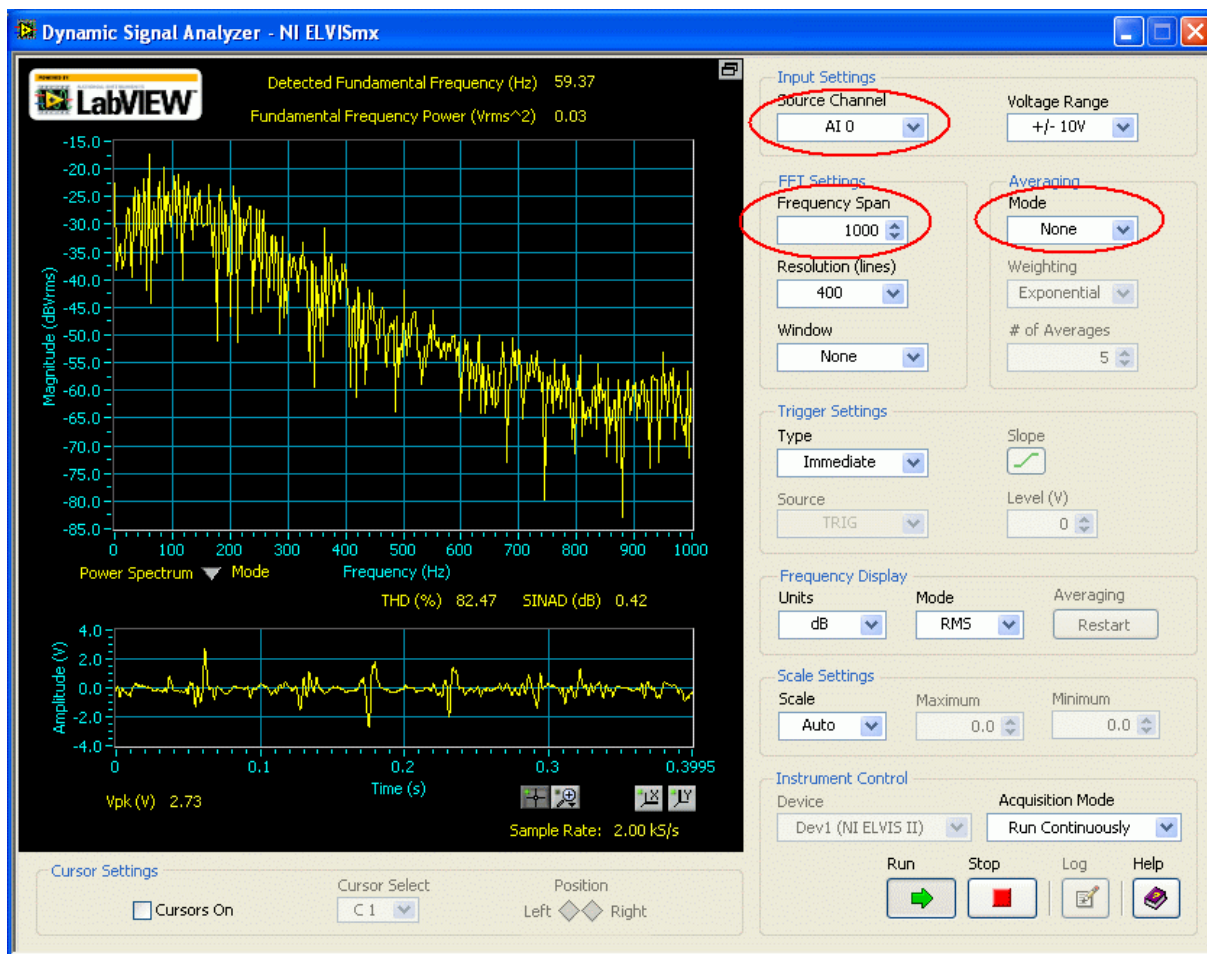

Figure 2.2: Setting up the Dynamic Signal Analyzer instrument
The NI ELVISmx *Dynamic Signal Analyser*, shown in Figure 2.2, is used to verify that the EMG sensor has been properly setup.
6. As shown in Figure 2.2, set the following in the *Dynamic Signal Analyzer* instrument:
7. Try to contract the muscles in your forearm and examine the voltage measured from the EMG sensor in the bottom scope called *Amplitude (V)*. As shown in Figure 2.2, the peak should exceed 2.0 V when the muscles are contracted. If not, then the EMG sensor has not been properly setup and you need to go through Steps 1 to 3 again.
2. Take a screen capture, similar to Figure 2.2, of when the forearm muscles are contracted.